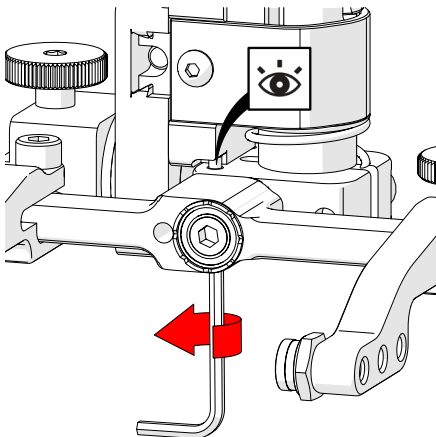

Fig. 134 - Raise opposite 90° stop post
8. Raise the stop post on the opposite side until the side of the post contacts the 90° stop point on the probe holder's base (Fig. 134).